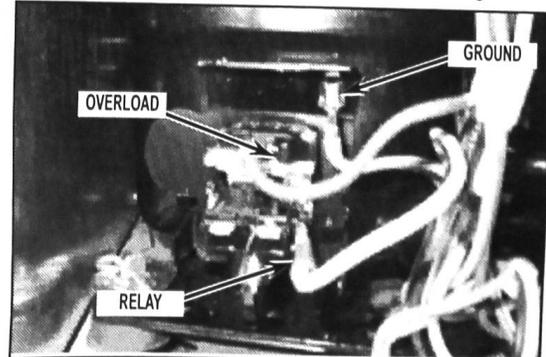

FIGURE 4
8. Install jumper harness on overload (red wire) and relay (white wire). Install ground wire to compressor. See Figure 4.